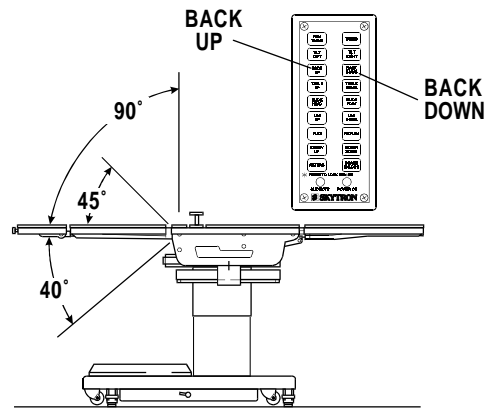

Figure 2-6. Back Section Positioning
d. Back Section. To raise the back section, press the BACK-UP button (figure 2-6). The back section will raise up to 90° above horizontal. To lower the back section, press the BACK-DOWN button. The back section will go down to 40° below horizontal.